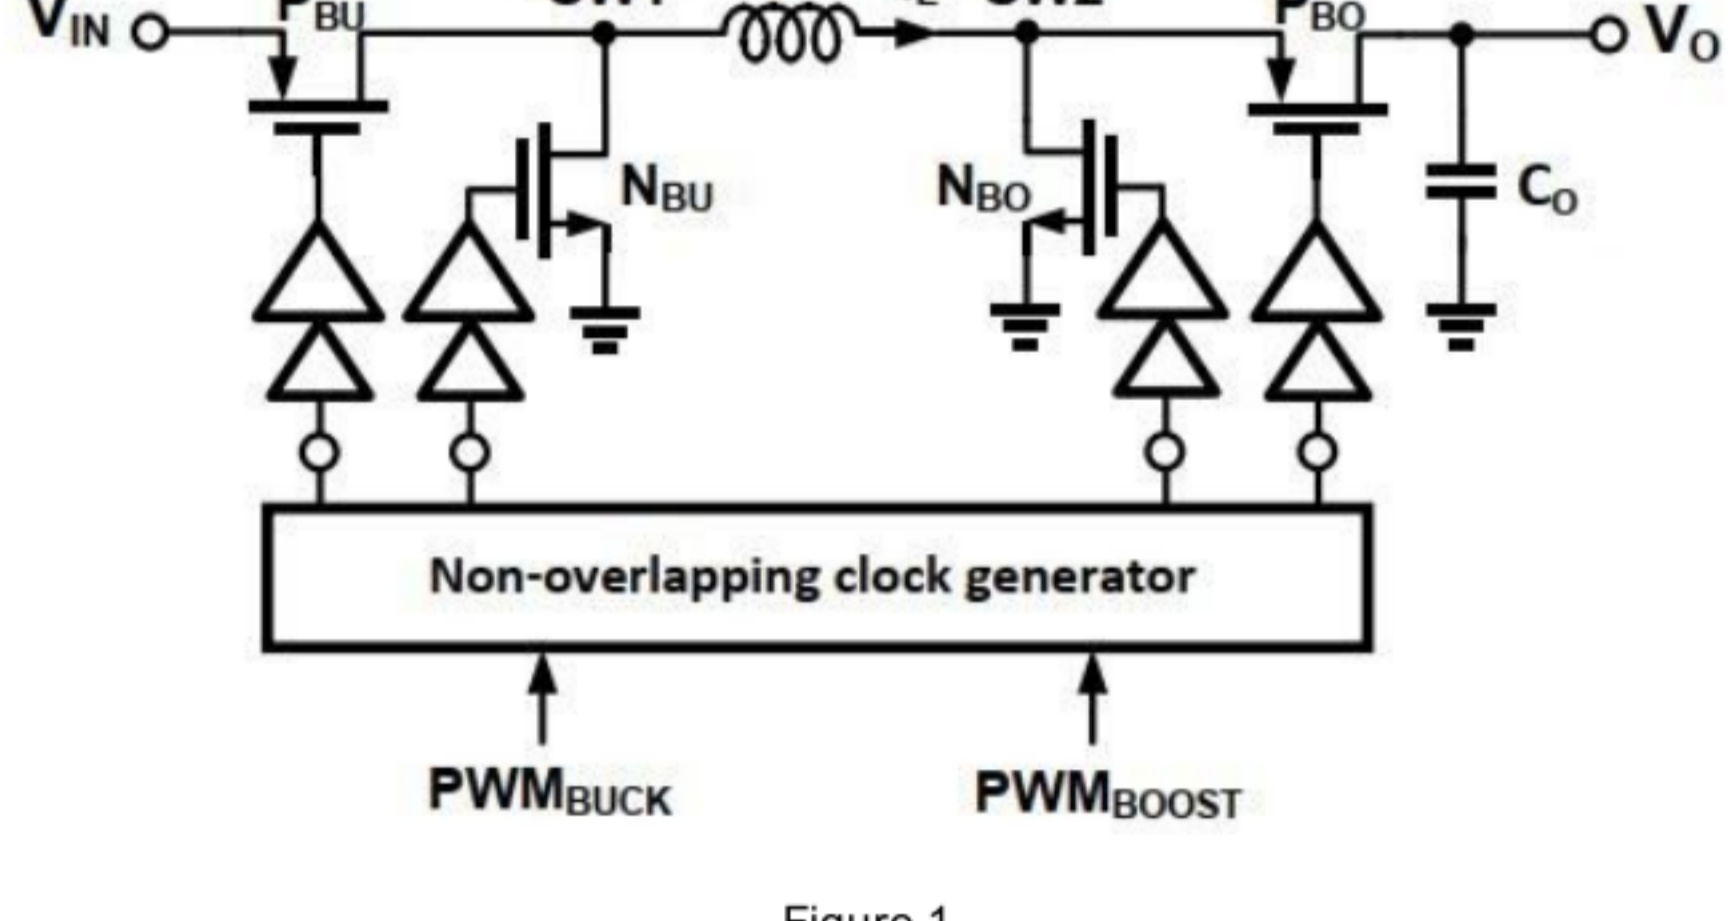

Figure 1
Consider the buck-boost converter shown in Figure 1, for questions 7 to 11. It needs to be designed for the following specifications. V_{IN} varies from $2.7 V$ to $5.5 V$, $V_O = 3.3 V$, $F_{SW} = 1 MHz$, $L = 1 \mu H$ and $C_O = 10 \mu F$. Assume that the maximum buck duty cycle is $D_{BUCK,MAX} = 0.95$ and that the minimum boost duty cycle is $D_{BOOST,MIN} = 0.05$. Neglect all conduction and switching losses. Use information provided / obtained in a previous question to answer subsequent questions. Adhere to the units mentioned in the question while filling in numerical answers. The duty cycle D always lies between 0 and 1.
7) Fill in the blank with a numerical answer: The buck-boost converter (shown in Figure 1) transitions from boost to buck-boost mode at $V_{IN} = \underline{\hspace{2cm}}$ volt (up to 3 decimal places).
8) Fill in the blank with a numerical answer: The value of the boost duty cycle that is required to meet the boundary condition when the buck-boost converter (shown in Figure 1) transitions from boost to buck-boost mode is $D_{BOOST} = \underline{\hspace{2cm}}$ (up to 3 decimal places).
9) What mode does the buck-boost converter (shown in Figure 1) operate in, when $V_{IN} = 3.4 V$ and $V_{OUT} = 3.3 V$? **1 point**
10) Fill in the blank with a numerical answer: The value of the boost duty cycle that is required for the buck-boost converter (shown in Figure 1) to operate at maximum efficiency when $V_{IN} = 3.4 V$ and $V_{OUT} = 3.3 V$ is $D_{BOOST} = \underline{\hspace{2cm}}$ (up to 2 decimal places).
11) Fill in the blank with a numerical answer: The value of the buck duty cycle that is required for the buck-boost converter (shown in Figure 1) to operate at maximum efficiency when $V_{IN} = 3.4 V$ and $V_{OUT} = 3.3 V$ is $D_{BUCK} = \underline{\hspace{2cm}}$ (up to 2 decimal places).